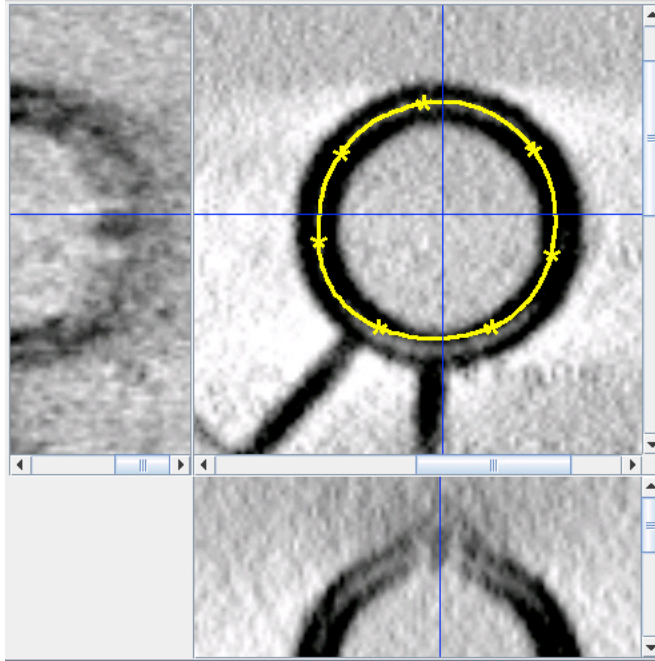

Figure 45: Initial segmentation anchor
- Use the sliders to navigate through the visualization window, so the upper right vesicle is roughly centered in the display (Figure 45).
- Press the left mouse button in the center of the vesicle, so that the transverse slices also depict the desired vesicle (Figure 45).
- Using the middle mouse button, select several points within the vesicle membrane to create a rough anchor path (Figure 45).